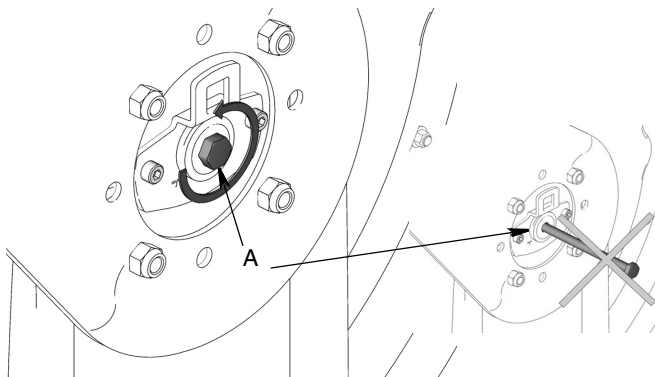

FIG. 10
1. Loosen, but **DO NOT REMOVE**, bolt (A) (approximately 3 to 5 turns) (FIG. 10).